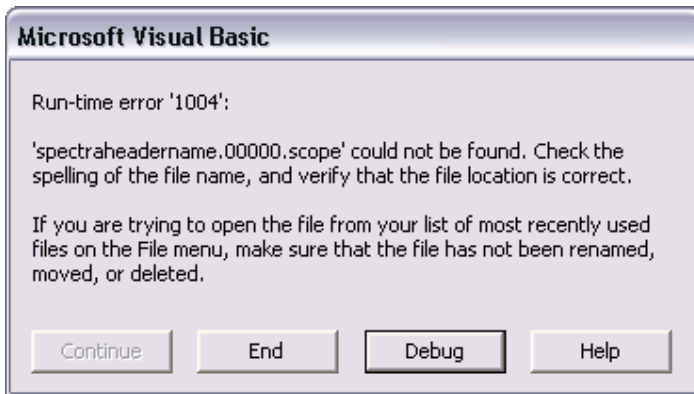

Figure 14 Debug window
6. Select Load spectra and the following window occurs (Figure 14).
7. Select Debug (Figure 14) and the following excel macro editor will occur.